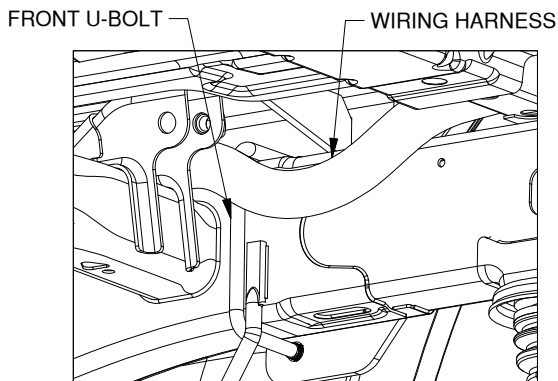

Figure C8: View looking at passenger side of frame.
5. **Install the passenger side plate.** Repeat this process for the passenger side plate. The passenger side front U-bolt will need to be positioned under the wiring harness that runs over the top of the frame, see Figure C8.